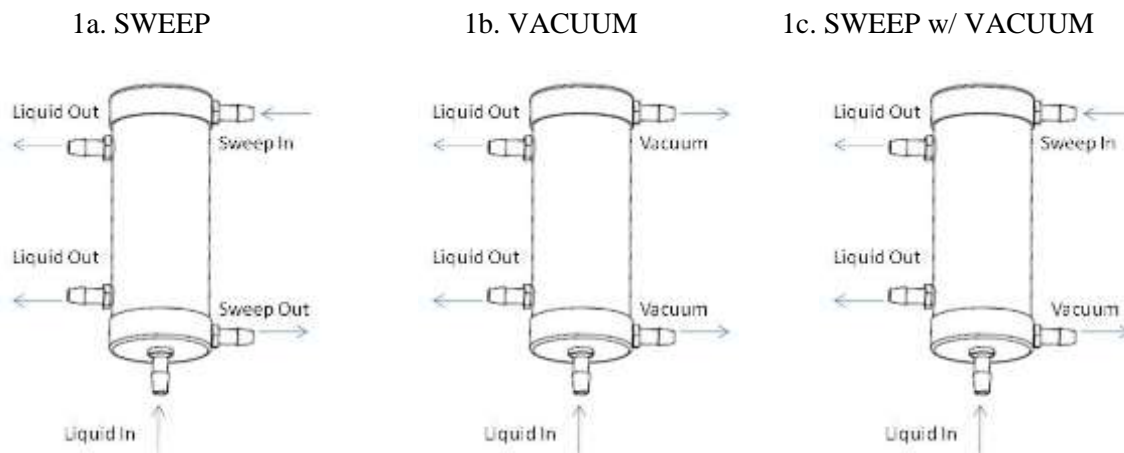
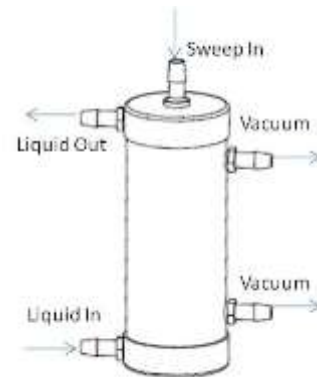

Figure 1. Liquid Contacting Operating Modes with 5 Port Modules – Liquid in the shell side
Figure 2. Liquid Contacting Operating Modes with 4 Port Modules – Liquid in the Lumens (only)
Figure 1 above illustrates the module installation / operation when liquid is flowing on the shell side. Figure 2 below illustrates proper installation / operation with liquid flowing in the lumens. Table 1 below provides a fluid pressure guide for vacuum degassing applications.
1. Connect all the lines to the module according to the chosen mode of operation as shown in Figures 1 and 2.